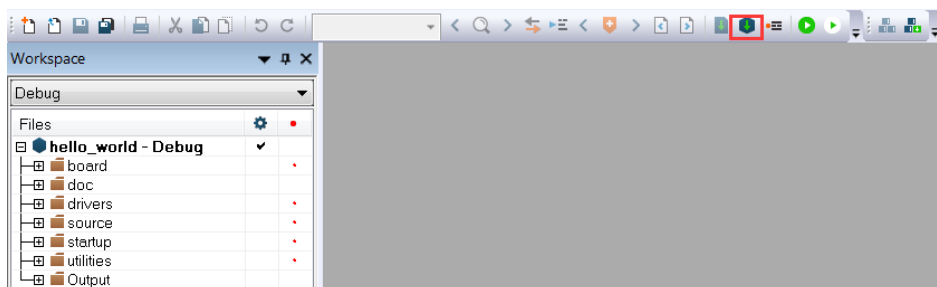

Figure 19. Build the demo application
3. To build the demo application, click **Make**, highlighted in red, as shown in Figure 19.